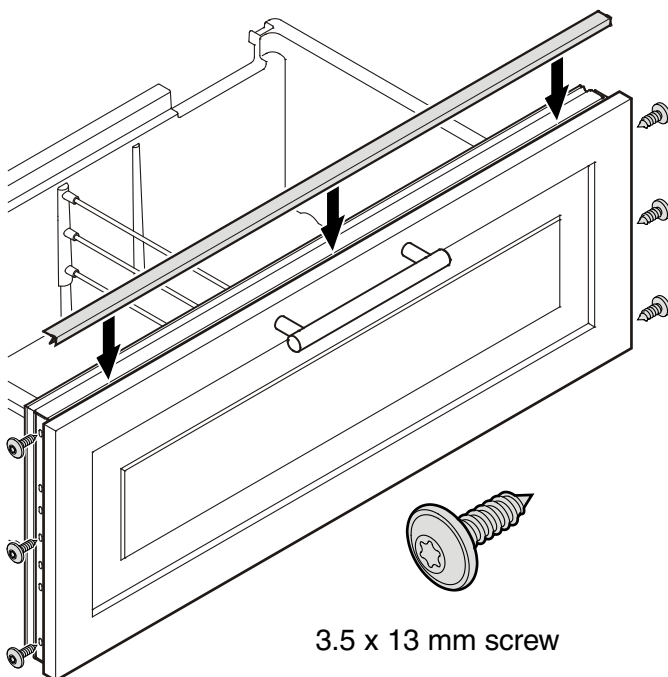

Figure 38
Mounting the Freezer Drawer Panels - *Figure 38*
1. Pull out the upper freezer drawer and screw on the panel with three screws on the left and right sides using the screws as shown in *Figure 38*.